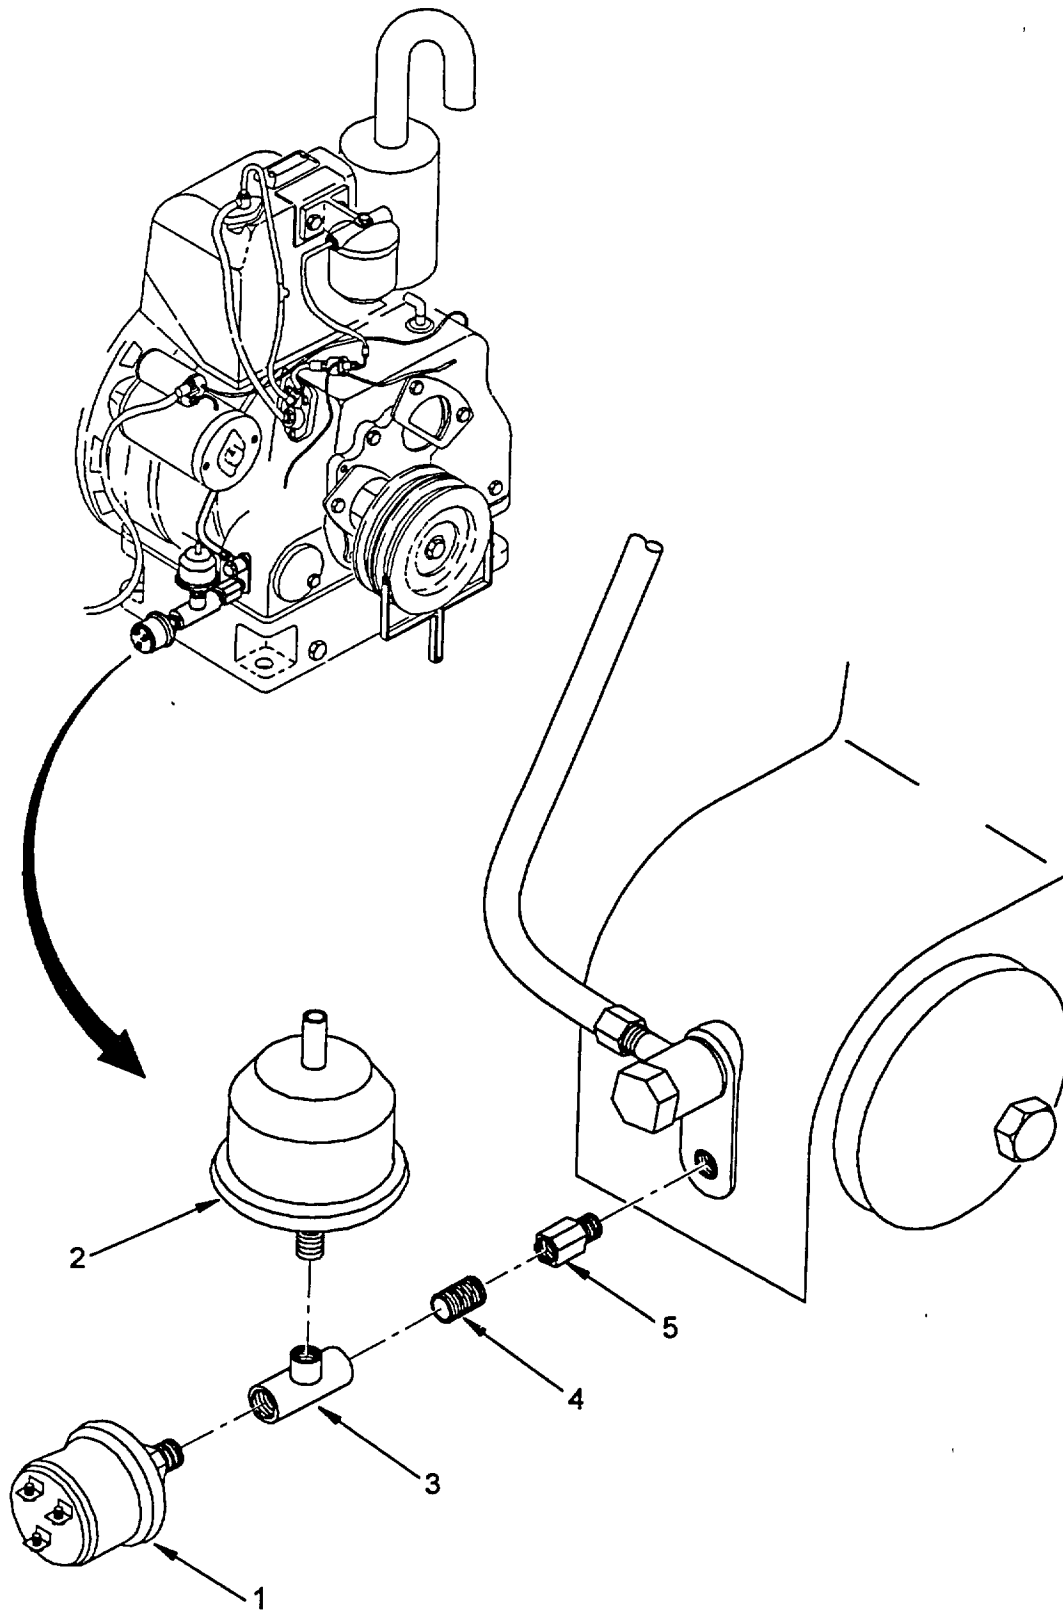

Figure 4-35. Oil Pressure Switch
f. Oil Pressure Switch. (Refer to Figure 4-35).
(1) Removal.
- (a) Refer to e. (1) above and drain engine oil.
- (b) Unscrew pressure switch (1) and pressure transmitter (2) from tee (3).
- (c) Remove tee (3), nipple (4) and straight adapter (5) from engine crankcase.
(2) Repair.